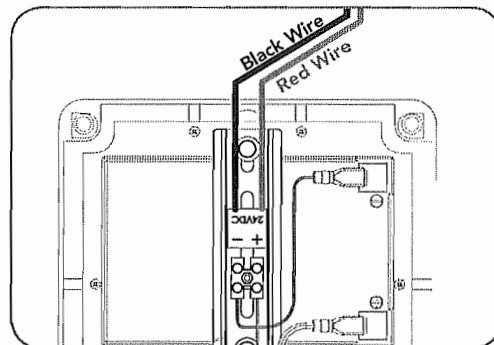

Fig 67
3. Connect the **red wire** to the Battery Box's "+" terminal, and the **black wire** to the "-" terminal (**Fig. 67**).